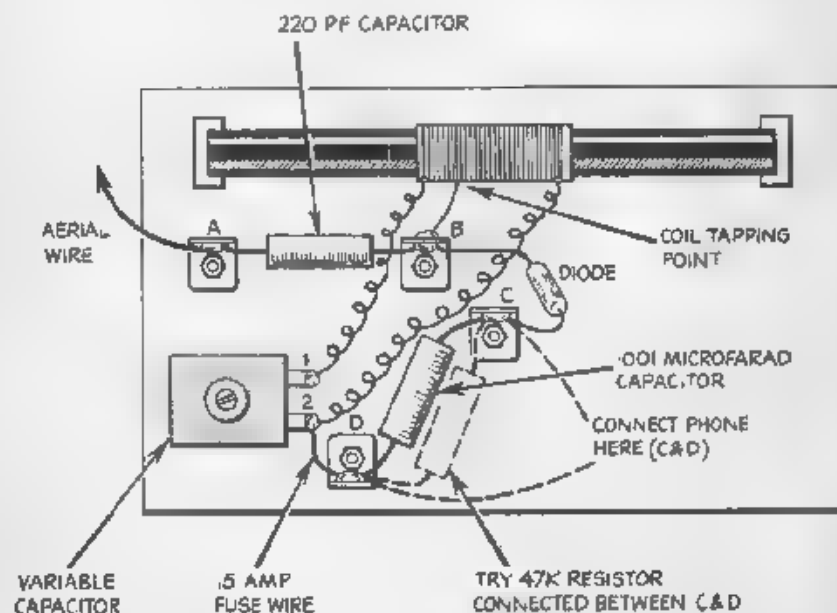
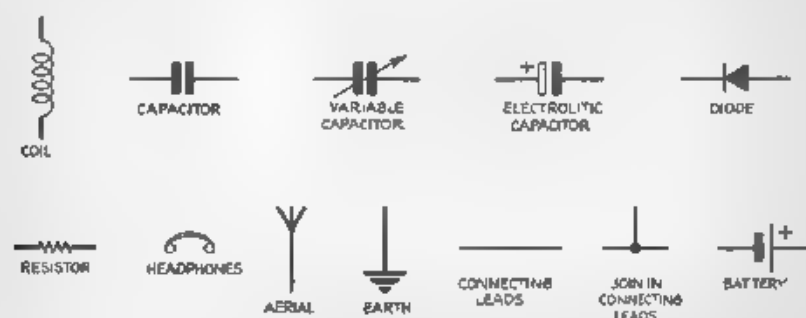
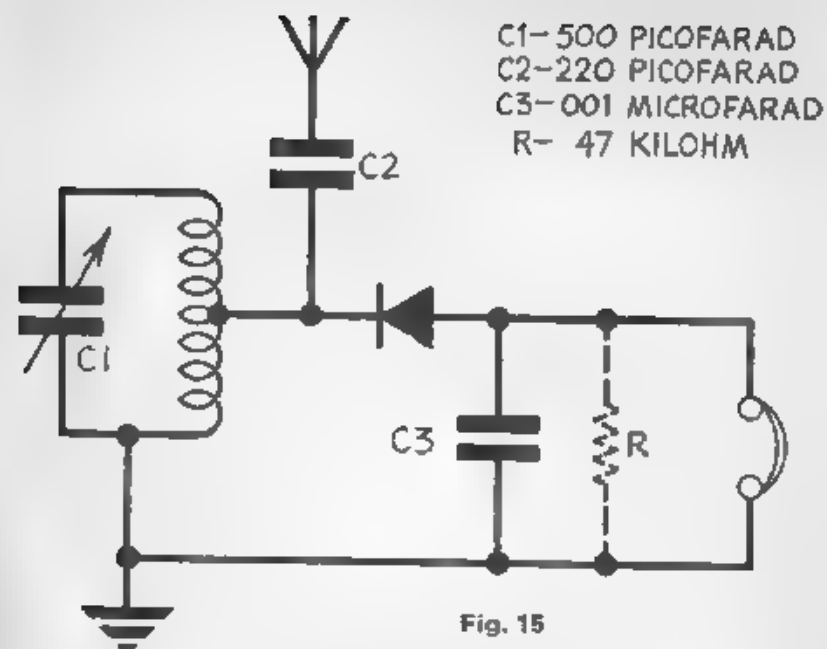
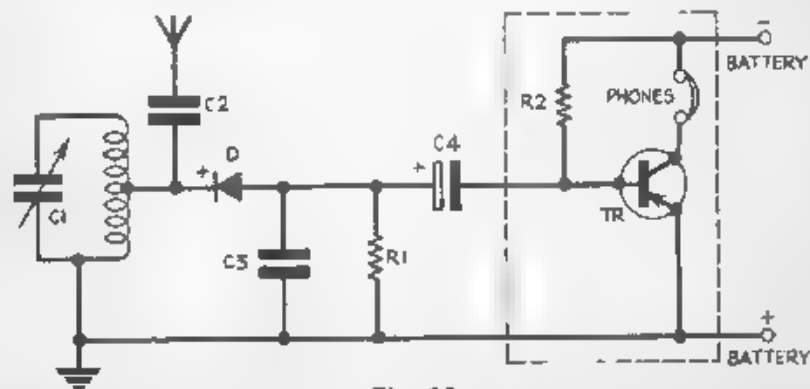

Fig. 13
Fig. 14
Fig. 15
Fig. 18
- The complete assembly should then look like *fig 13*. Check over all the connections. The headphones are then connected to tags C and D, and the aerial wire to tag A. The earth wire
Rather than planning a circuit showing all the components in positions as in *fig. 13*, the usual way of drawing a plan of a radio circuit is to use symbols for the components. This makes it much easier to understand, once you know what the symbols mean (*fig. 14*).
The circuit we have used in Parts 3 and 6 is shown drawn in symbol form in *fig. 15*. This is the way the plan of any radio set is normally given. It is called a *theoretical circuit*, which shows all the components and how they are connected. But it is not a wiring up diagram, for the components will almost certainly have to be laid out differently on a base panel. Compare this figure with *fig. 13*, for example, which is a wiring diagram. A theoretical circuit gives all the information you need to build that particular design, but you still have to work out a suitable wiring diagram.
Fig 18 shows a theoretical circuit for the crystal set with an amplifier stage added. This is the same as fig 15 with the addition of some new components.
Follow the same assembly instructions as for *fig 13*, then connect up the additional components. C4 is connected between tags C and F. R2 is connected between tags F and H. Then connect tag H to J with a length of 15 amp fuse wire, and connect tags D, E, K and L together with a length of 15 amp fuse wire.
The actual *amplifier stage* is enclosed by the dotted 'box' (*fig 18*). To add a second stage of amplification
You can go on adding two, three, four or even more stages of amplification in this way, but the results will not be satisfactory. You will find that in addition to increasing the volume of the sound you are also getting *distortion* and a lot of unwanted sounds as well. One stage of amplification (*fig 18*, for example) is very worthwhile. Two stages of amplification (one further stage added to *fig 18*) may be worthwhile, but you will almost certainly get some distortion of the sound and loss of quality. Any further number of stages may increase the volume, but the quality of reception will be poor.
This circuit is really the same as *fig 18*, except that a different value for resistor R2 is used and the phones are connected to the emitter side of the transistor rather than the collector side. It will work better where signals are very weak, and perhaps pick up stations that *fig 18* would not.
The circuit we developed in *fig 18*, with one stage of amplification, is a very good one. But it can be improved on. The performance of a transistor tends to vary with changing current passing through it as it does when amplifying the sound signals. To overcome this we need to add some more components to *stabilise* the transistor.